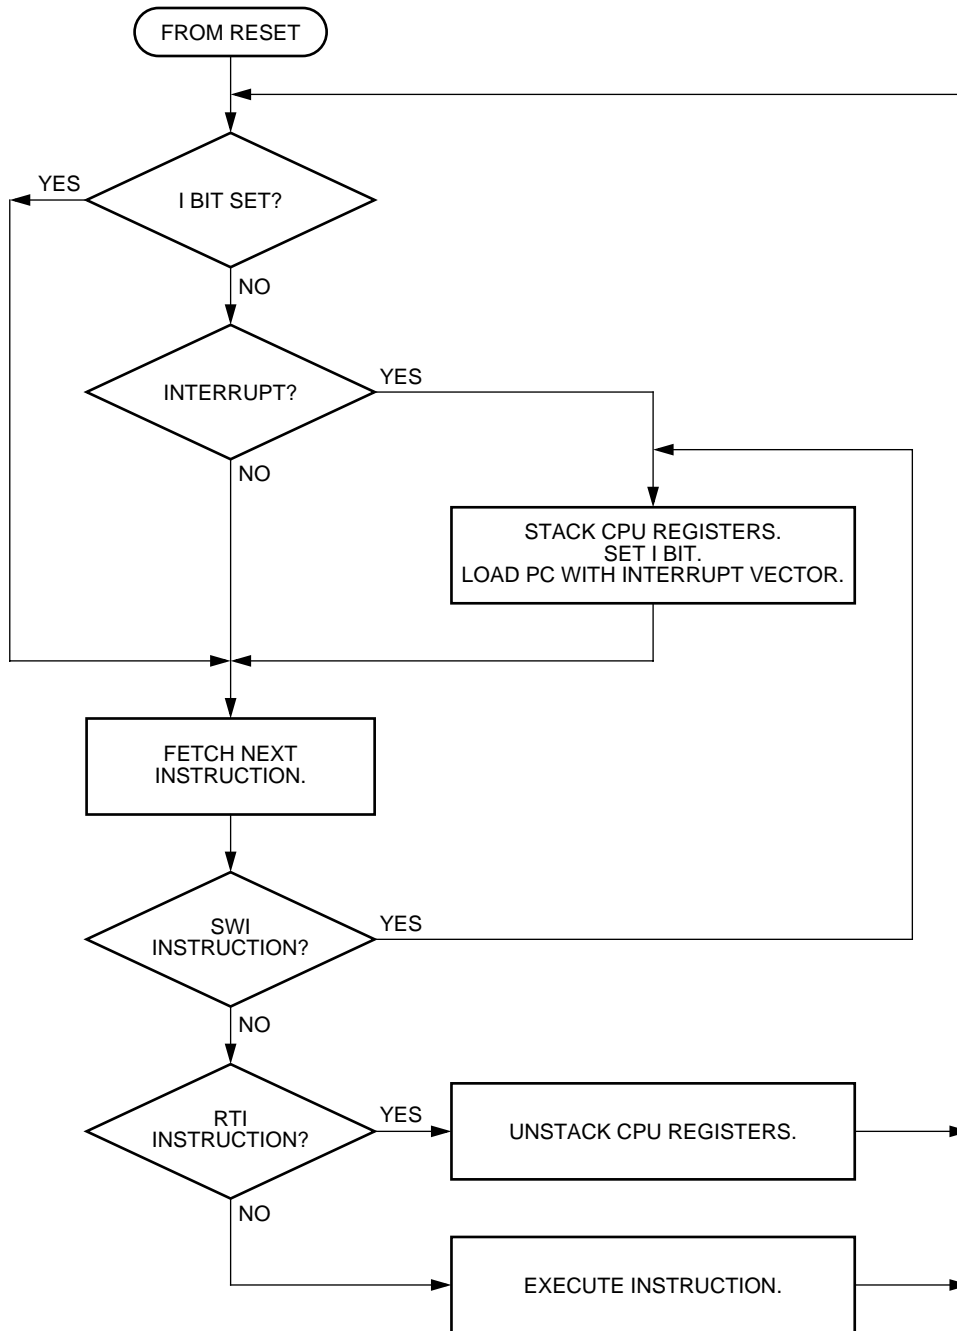

Figure 4. IRQ interrupt flowchart
NOTE: *The interrupt mask (I) in the condition code register (CCR) masks all interrupt requests, including external interrupt requests. See Figure 4*